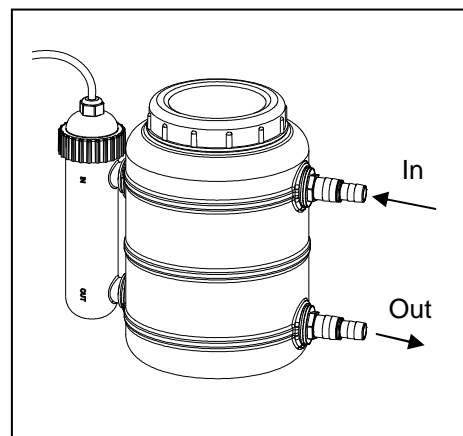

Fig. 14
14. Connect a length of tube from the outlet of a pump to the inlet of the filter (upper hole). Connect a length of tubing from the outlet of the filter (lower hole) to a water feature. Fig. 14